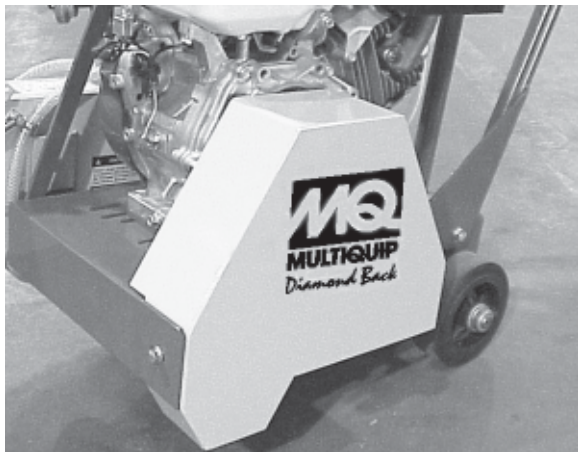

Figure 9. V-Belt Cover
1. Remove the bolts that secure the V-belt cover (Figure 9) to the saw frame.